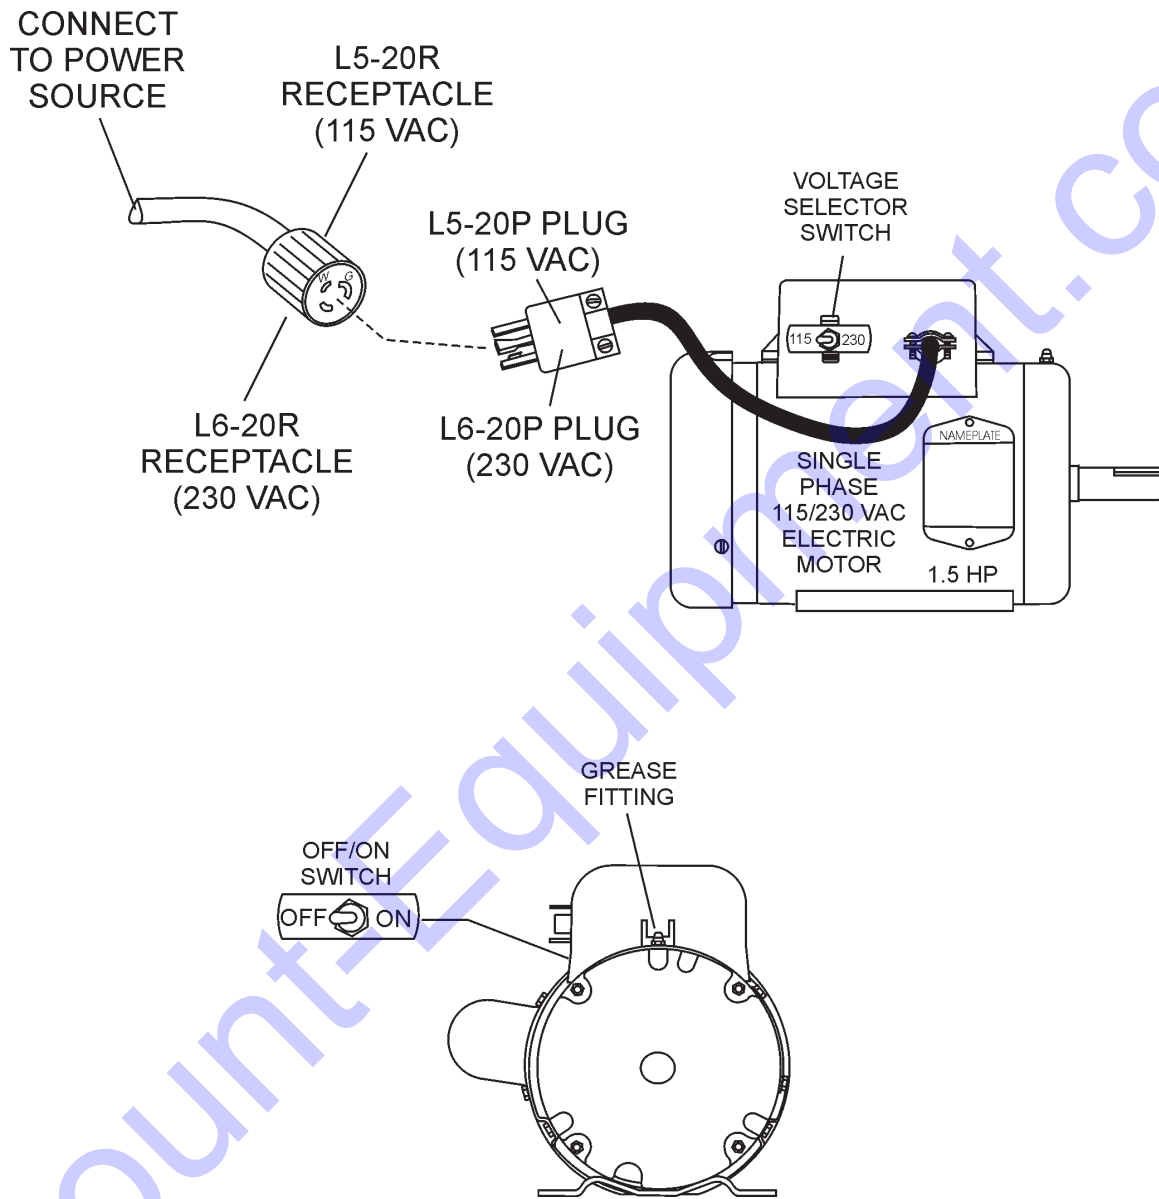

Figure 7. Single Phase Electric Motor
4. **Important!**, when changing the input voltage to the electric motor from 115 to 230 VAC, the **plug** on the electric motor power cord must also be changed. See Table 6 and Figure 7.